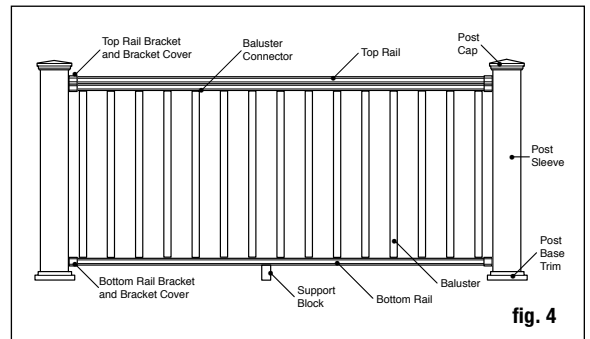

fig. 4
Step 5 Trim 4x4 post sleeves to length. Post sleeves should be a minimum of 1-1/2" longer than the railing height (fig. 4). Example: For a 36" high railing, trim post sleeve to a minimum of 37-1/2", can be left longer if desired. Slide a trimmed post sleeve over each 4x4 railing post. Post sleeve should slide easily over the post. DO NOT FORCE post sleeve onto post. Twisted or crooked 4x4s should be replaced. Slide a post base trim (optional) over each post sleeve for a finished look. *Note: It is recommended to install the post base trim prior to installing the bottom rail. However, the two-piece design does allow the installer to add the post base trim after the rail has been installed. To install, apply a thin line of clear exterior construction adhesive to the inside of the post trim, where it will contact the post sleeve, and snap into place around the base of the post sleeve.*